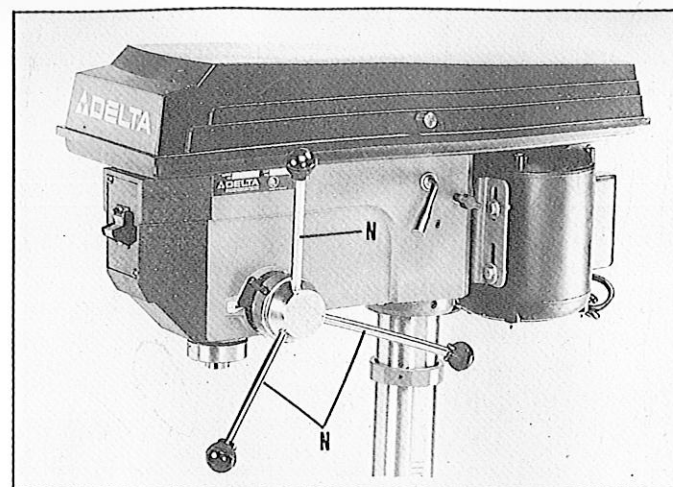

Fig 9
9. Thread the three pinion shaft handles (N) into the three holes located in the pinion shaft, as shown in Fig. 9.